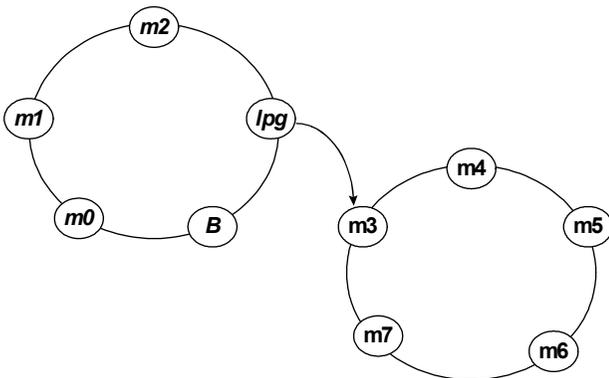

Figure 13-1. Secondary Bus Arbiter Example
The secondary Arbiter supports a programmable two-level rotating algorithm that enables the nine request/grant pairs to control up to nine external bus masters. In addition, there is a request/grant pair internal to the PCI 6150, which allows the device to request and be granted access to the secondary bus. Figure 13-1 is an example of the Internal Arbiter wherein four masters, including the PCI 6150, are in the high-priority group, and five masters are in the low-priority group. Using this example, if all requests are always asserted, the highest priority rotates among the masters in the following way (the PCI 6150 is denoted as *B*; high-priority members are provided in *italic type*, and low-priority members in **boldface type**):
**Note:** In Figure 13-1, “lpg” denotes “low-priority group.”
Using the example provided in Figure 13-1, but with the groups at fixed-priority, suppose that: